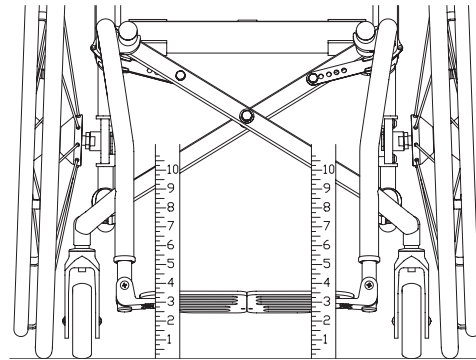

Figure 7
2. Place the end of a ruler on the floor and hold it vertically against the corner of the footrest. See Figure 7. Adjust the left side of the footrest to the desired height (not less than 2" of ground clearance) and tighten the Allen Screws in the left clamp so the left footrest cannot change.
5. Place the end of a ruler on the floor and hold it vertically against the left corner of the footrest. See Figure 7. Adjust the left side of the footrest to the desired height (not less than 2" of ground clearance) and tighten the Allen Screw in the left clamp so the left side of the footrest cannot change.